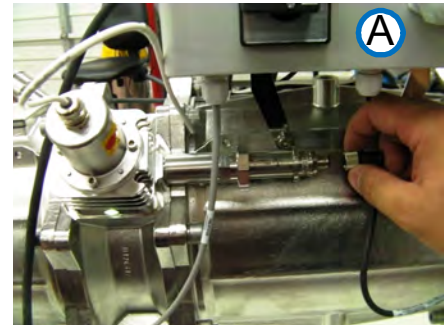

Figure 10-27: Removing connector A (Generic View)
- Step 1.** To disconnect the harness connector (shown in view **A**, Figure 10-27), unscrew the sensor's threaded locking nut.